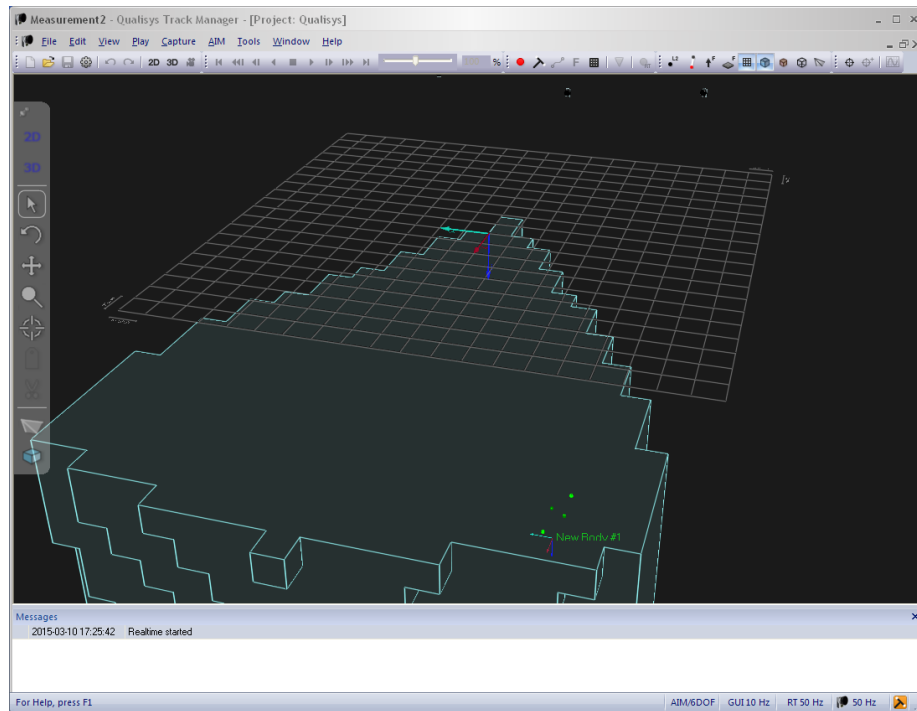

Figure 1.7: Qualisys Track Manager 3D view
6. Finally, select 3D view to confirm that the body-fixed frame is indeed located as desired, as in Figure 1.7.